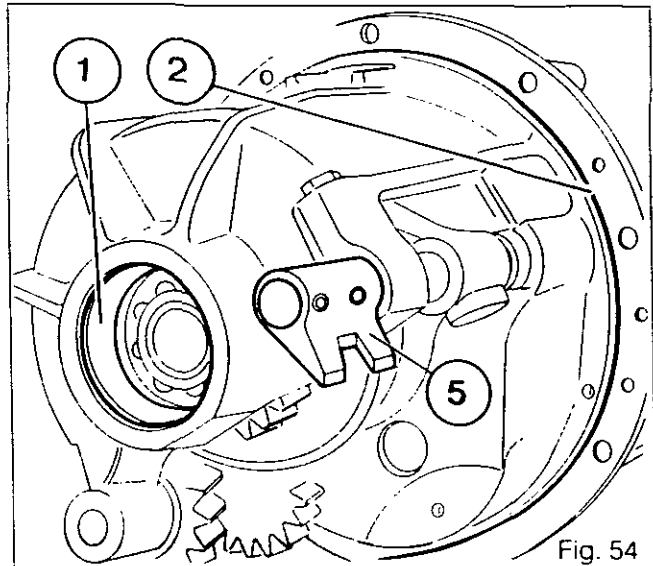

Fig. 54
188. **Check that the cup (1) and the «O» ring (2) are fitted (Fig.54).**
191. At the same time, check through the selector cover that the reverse shuttle selector (5) (Fig.54) is not in contact with the housing partition and that the layshaft cone (63) engages in the cup (64) (Fig.56)